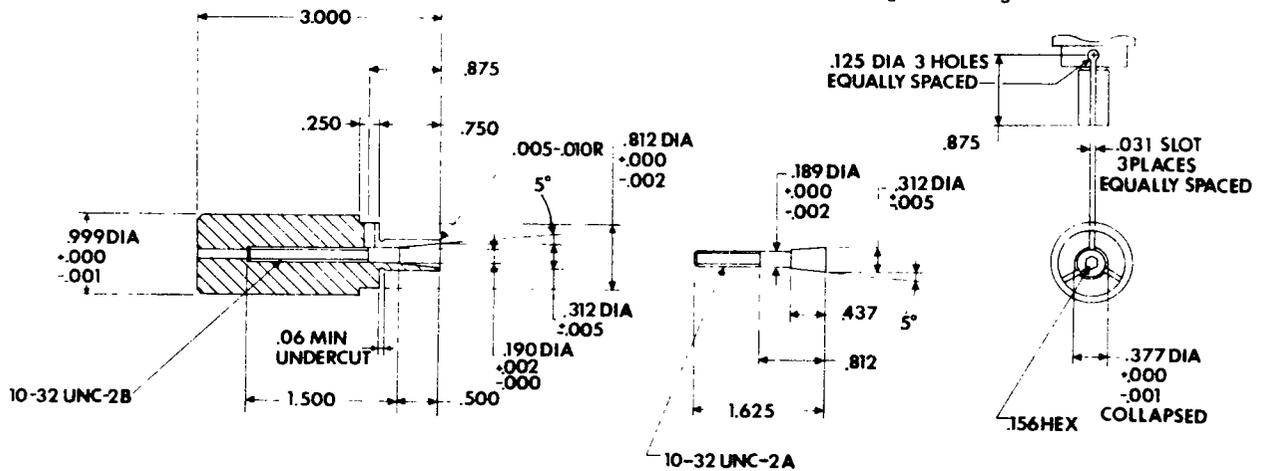

Figure 3.
- Fabricate an expanding arbor lathe fixture as shown in figure 3. (Similar arbors may be purchased from industry machine tool supply houses.)
Expanding arbor lathe fixture. (See figure 3).